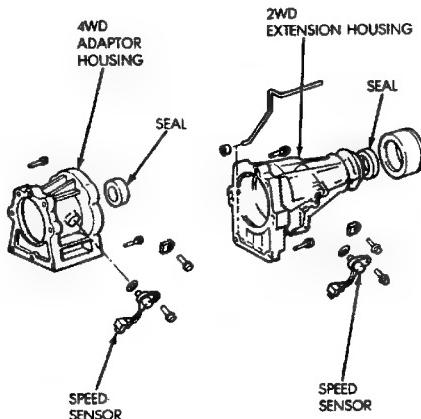

Fig. 39 Adaptor/Extension Housing Seals
(2) On '2WD or 4WD models, disconnect or remove components necessary to gain access to the seal (e.g. propeller shaft, crossmember, shift linkage, transfer case, exhaust components, hoses, wires).
- (3) On 2WD models, remove seal from adaptor housing (Fig. 39).
- (4) On 4WD model, remove dust shield and remove seal from extension housing (Fig. 39).
- (5) Install new seal with appropriate size seal installer. On 4WD models, also install dust shield.
- (6) Reinstall components removed to gain access to seal.
- (7) Top off transmission fluid if necessary.